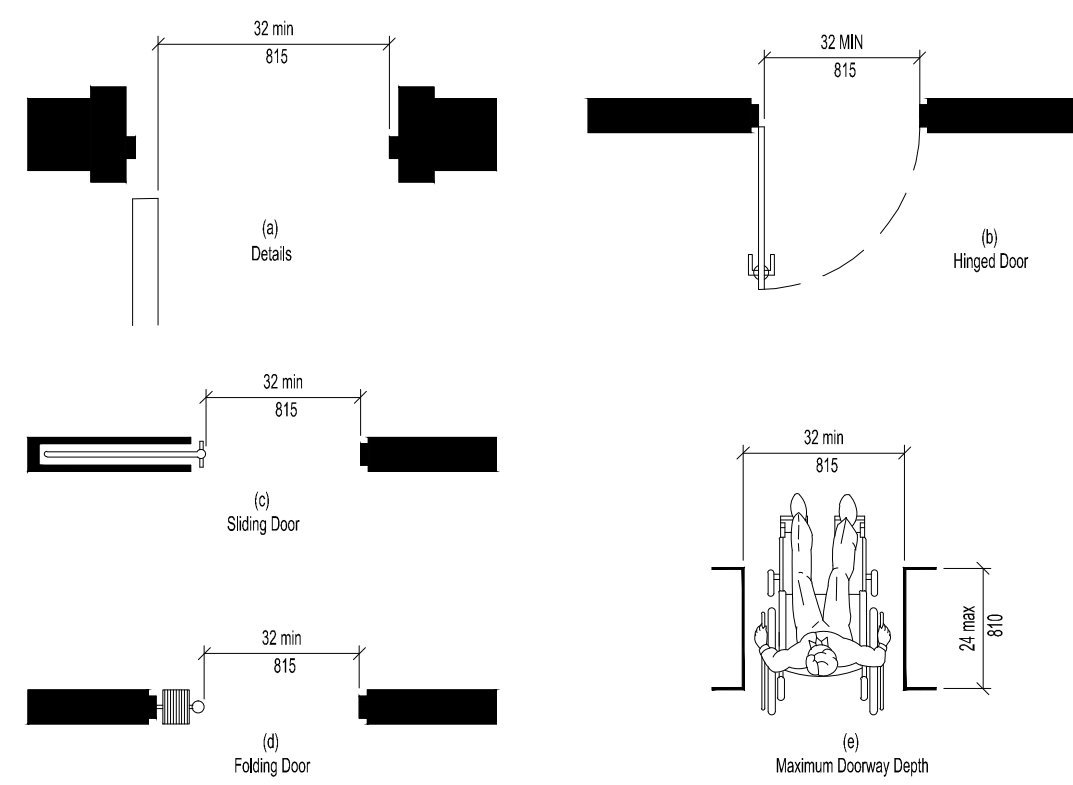

Fig. 24
4.13.5 Clear Width. Doorways shall have a minimum clear opening of 32" (815mm) with the door open 90°, measured between the face of the door and the opposite stop (see Fig. 24(a),(b),(c) and (d)). Openings more than 24"(610mm) in depth shall comply with 4.2.1 and 4.3.3 (see Fig. 24(e)).